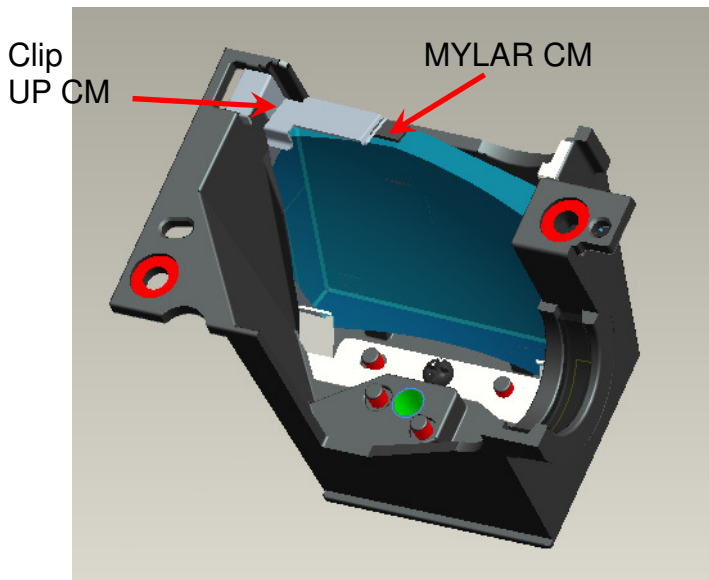

Fig. 3-4
- (4) Assemble “MYLAR CM” to the CMD firstly, “CLIP TOP CM”(with forceps) to the “HSG ILL” (Fig. 3-4,).